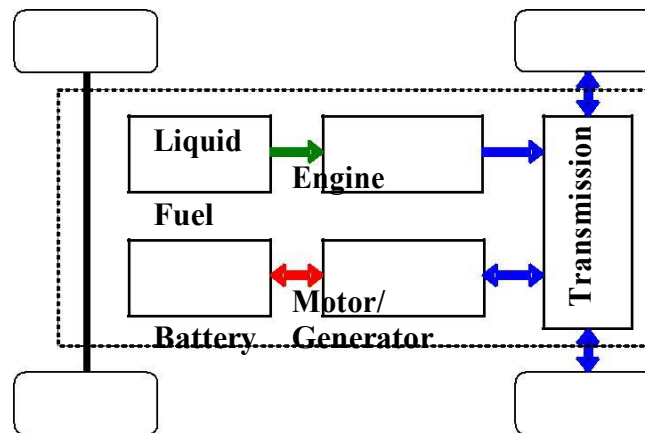

**Figure 3:** Schematic of a Series Hybrid powertrain
For vehicular applications, the ideal performance characteristic of a power plant is constant power output over the full speed range. Consequently, the torque varies hyperbolically with respect to speed as shown in **Figure 3** . This ideal performance characteristic of the power plant will ensure that the maximum power is available at any vehicle speed, thus resulting in optimal vehicle performance. In practice however, the torque is constrained to be constant at low speeds. This is done so as not to be over the maxima limited by the adhesion between the tyre-ground contact areas. The **internal combustion (IC)** engines are the most commonly used power plants for the land vehicles. In hybrid and electric vehicle technology, the **electric motor** is used.
- **Figure 3:** Ideal performance characteristics for a vehicle power plant
In a Series Hybrid there is a single path to power the wheels of the vehicle, but two energy sources. As shown in figure 3, the fuel tank feeds an engine which is coupled to a generator to charge the battery which provides electrical energy to a motor/generator to power the wheels through a transmission although a direct coupling can also be used. The motor/generator is also used to recharge the battery during deceleration and braking.
There are many possible EV configurations due the variations in electric propulsion and energy sources. Based on these variations, six alternatives are possible as shown in **Figure 3**. These six alternatives are